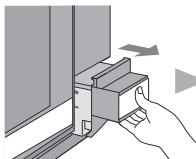

Figure 1
NOTE: Place the rack on glass tray as shown in Figure 1.
1. Pull the water tank toward you to remove. (Figure 1)